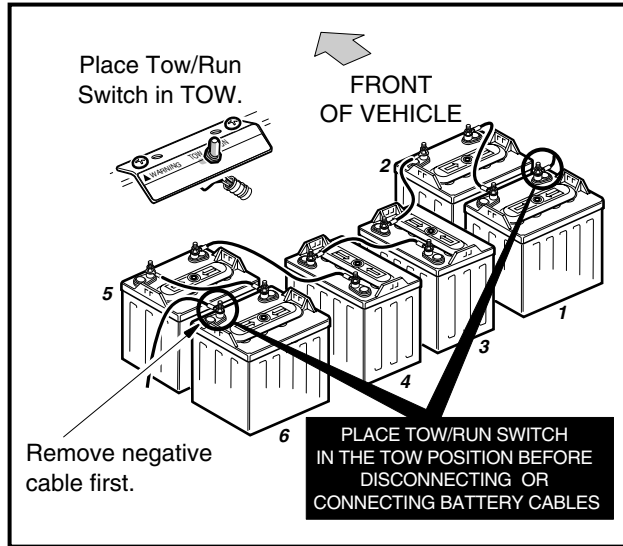

Figure 1 IQ System Battery Configuration
- **To avoid unintentionally starting the vehicle, place the Tow/Run switch in the TOW position, then disconnect the batteries, negative cable (-) first, as shown in (Figure 1).**